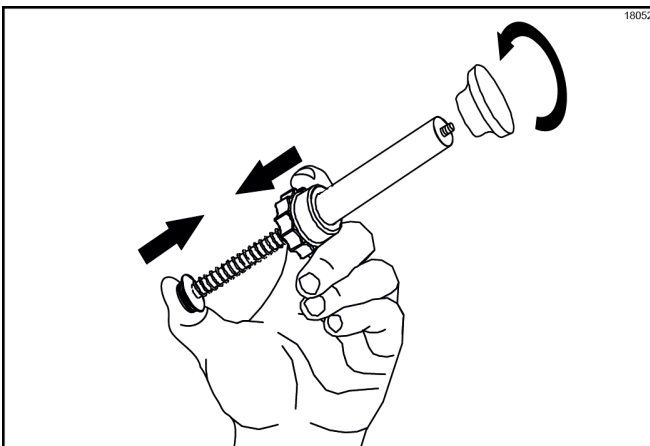

Figure-73
4. To remove the knob, compress the spring by holding the nut and pressing on the end of the plunger. Turn the knob counterclockwise. (See Figure-73.)